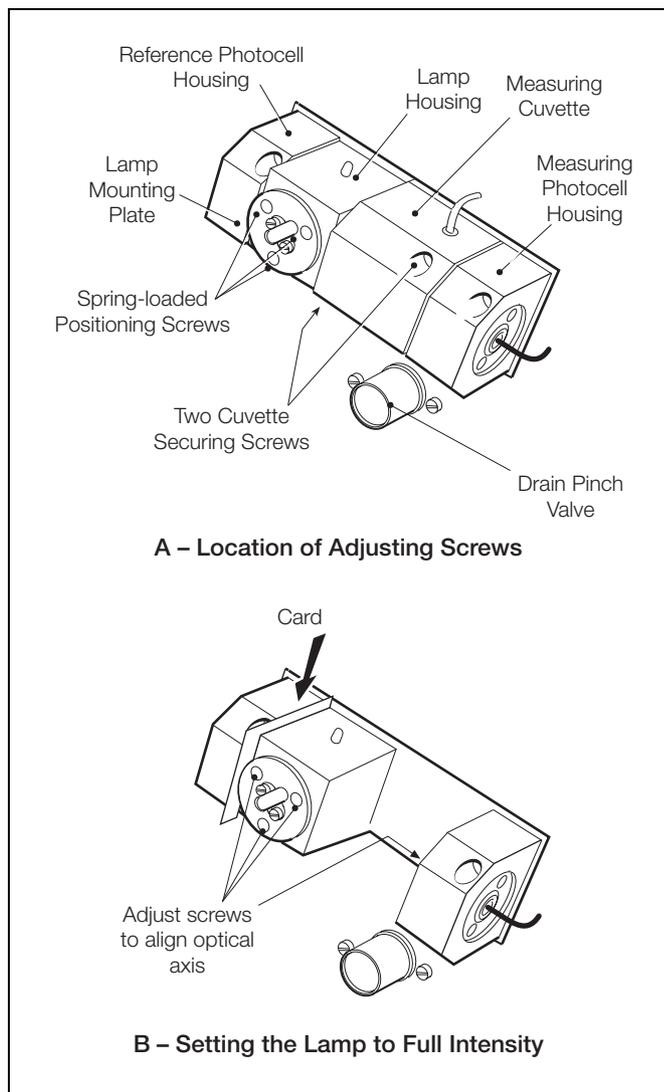

Fig. 8.4 Lamp Adjustment
8.6.1 Replacing the Exciter Lamp – Fig. 8.4
2. Switch off the instrument, unscrew the three spring-loaded positioning screws (Fig. 8.4) and lift off the lamp mounting plate.